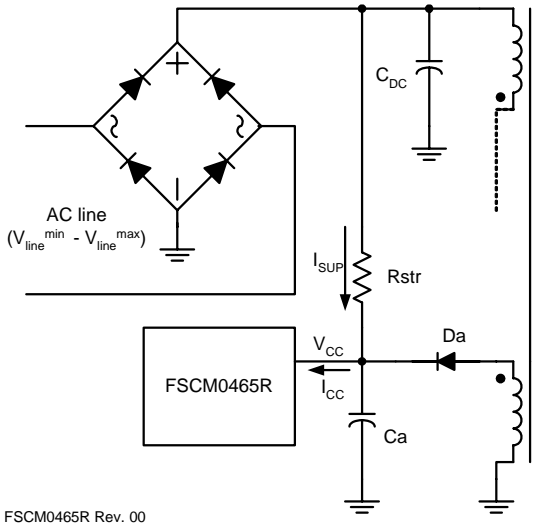
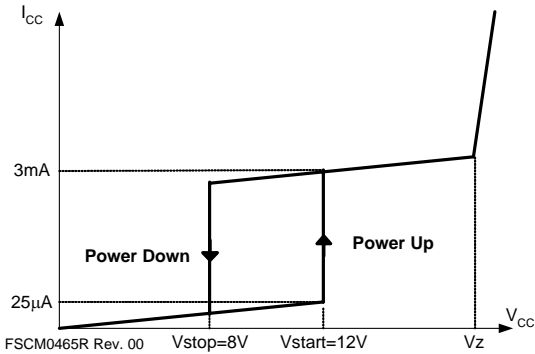

Figure 16. Startup Circuit
Figure 17. Relation Between Operating Supply Current and  $V_{CC}$  Voltage
**1. Startup:** Figure 16 shows the typical startup circuit and transformer auxiliary winding for the FSCM0465R application. Before the FSCM0465R begins switching, it consumes only startup current (typically 20μA) and the current supplied from the DC link supply current consumed by the FPS ( $I_{CC}$ ) and charges the external capacitor ( $C_a$ ) connected to the  $V_{CC}$  pin. When  $V_{CC}$  reaches start voltage of 12V ( $V_{START}$ ), the FSCM0465R begins switching and the current consumed by the FSCM0465R increases to 2.5mA. Then the FSCM0465R continues its normal switching operation and the power required for this device is supplied from the transformer auxiliary winding, unless  $V_{CC}$  drops below the stop voltage of 8V ( $V_{STOP}$ ). To guarantee the stable operation of the control IC,  $V_{CC}$  has under-voltage lockout (UVLO) with 4V hysteresis. Figure 17 shows the relationship between the current consumed by the FPS ( $I_{CC}$ ) and the supply voltage ( $V_{CC}$ ).